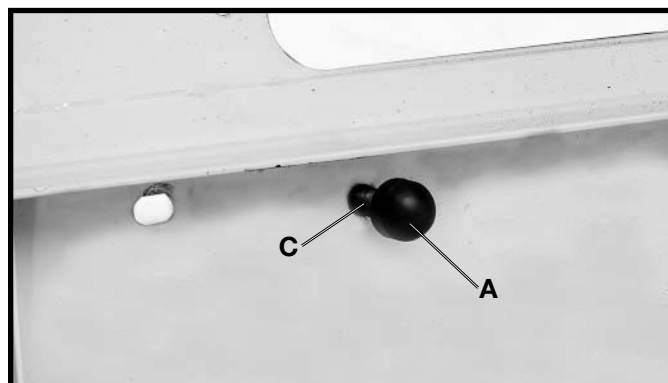

Fig. 10A
25. Place the damping cap (A) Fig. 10A onto the threaded end of the screw (C).